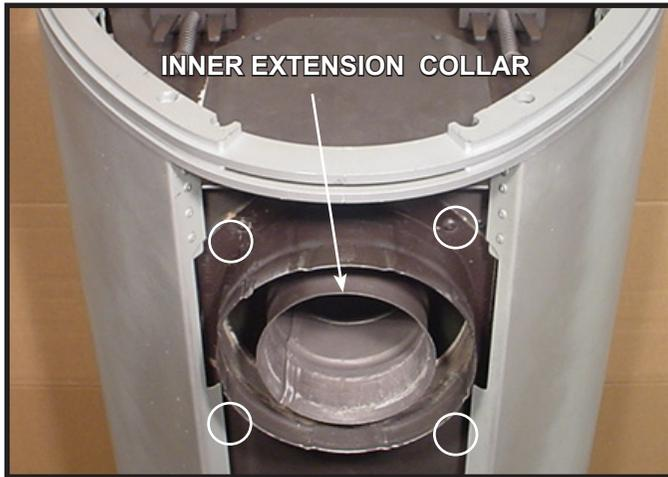

Figure 9.8
3. Remove and retain the Allen head screws that hold the solid back panel in place (Figure 9.8). Remove and discard the solid back panel.
6. Remove the four screws from the cover plate on rear of gas stove. Set cover plate aside. Retain screws. (See **Figure 9.8**). Attach DV adapter collar in its place. Install the inner extension collar.